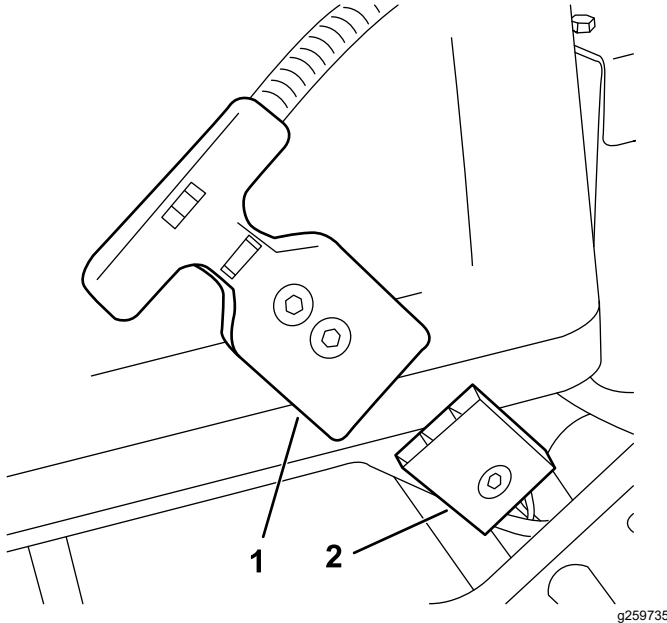

Figure 12
1. Connect the T-handle connector to the main power supply connector (Figure 12).